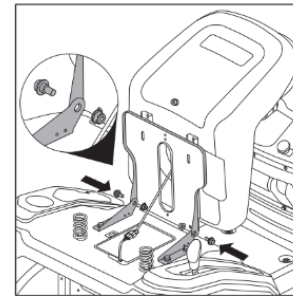

Fig. 8
1. **Align the holes on the seat bracket with the corresponding holes on the tractor bracket (Fig. 8)**
2. **Insert the provided bolt into each side and tighten using the open-end wrenches (Fig. 8)**